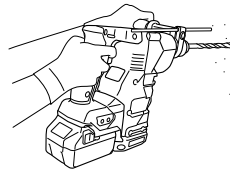

Fig. 19
- (1) Mount the drill bit.
- (2) Pull the trigger switch after applying the drill bit tip to the drilling position (Fig. 19).
When the drill bit touches construction iron bar, the bit will stop immediately and the rotary hammer will react to revolve. Therefore please grip the side handle and handle tightly as shown in Fig. 19.